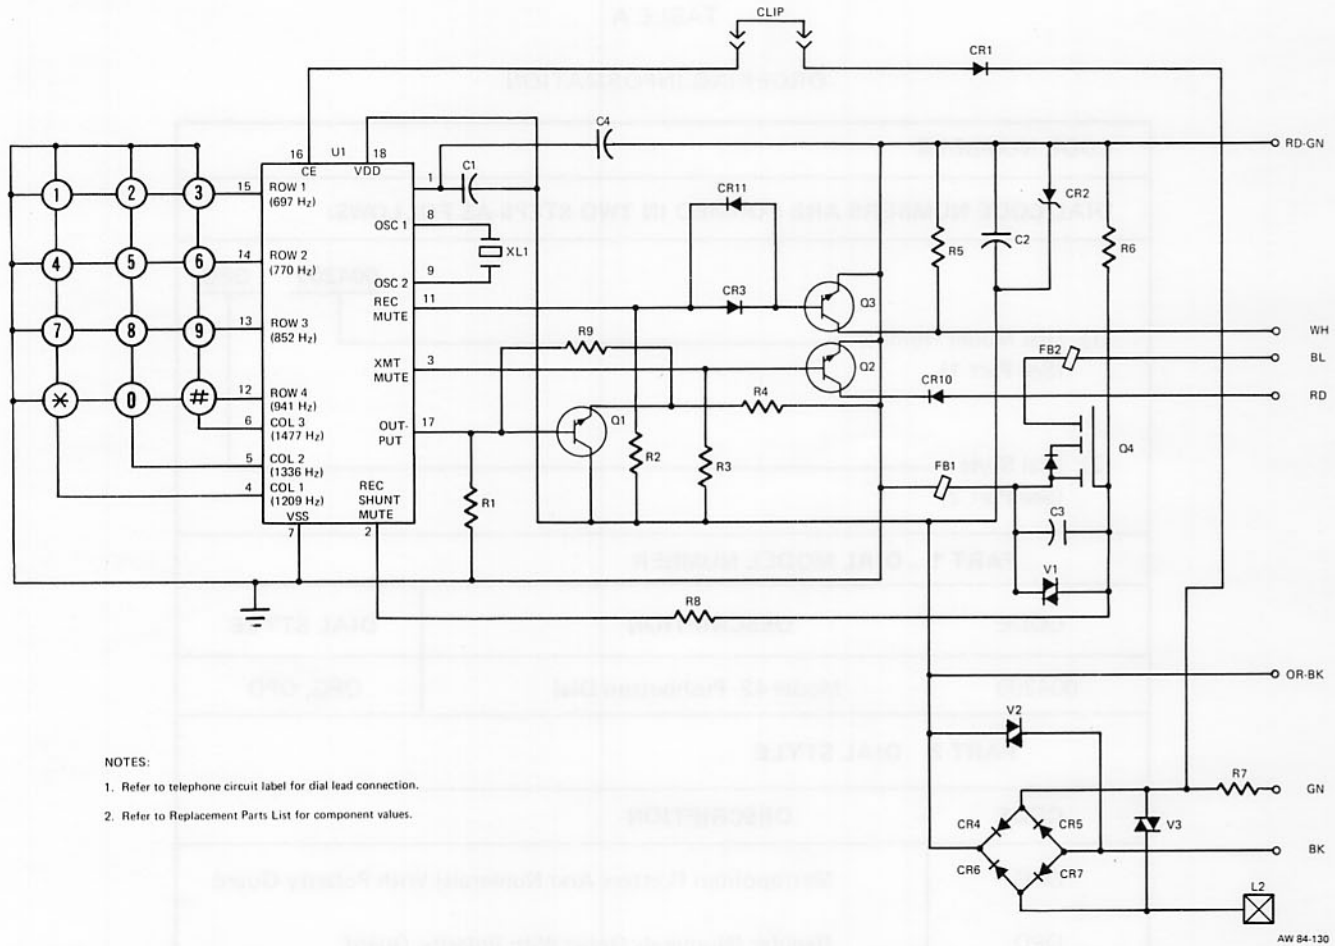

Figure 3: Model 42 Pushbutton Dial, Schematic
2.04 The tone-generating PCB consists of a DTMF generator integrated circuit (IC), a crystal oscillator, and various other solid-state components. The crystal oscillator provides a constant reference for the tone generator IC that generates eight digitally-synthesized tones. The other solid-state components, along with the IC, provide handset receiver and transmitter muting, and polarity guard. (See Figure 3.)
2.04 The tone-generating PCB consists of a DTMF generator integrated circuit, a crystal oscillator, and various other solid-state components. The crystal oscillator provides a constant reference for the tone generator IC that generates eight digitally-synthesized tones. The other solid-state components, along with the IC, provide handset receiver and transmitter muting, polarity guard, and muting of the handsfree speaker. (See Figure 3.)